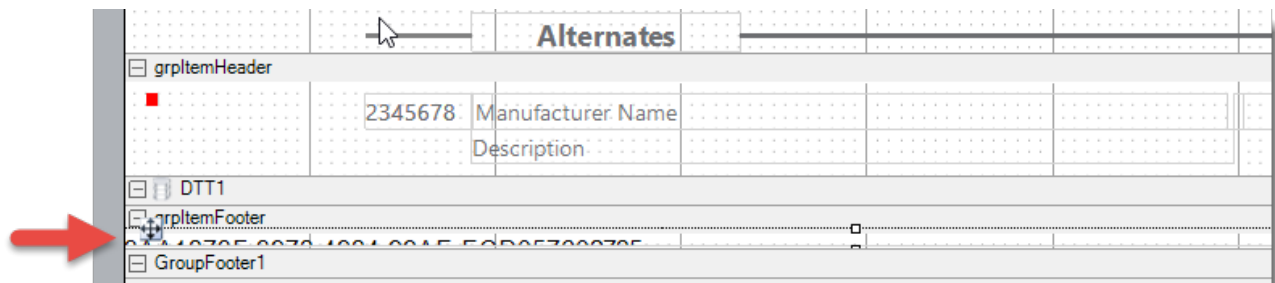

Figure 9. Select the embedded subreport
9. Repeat the first six steps for the 'Proposal Level2 Items' subreport. Before previewing and publishing this subreport we need to embed our custom 'Proposal Level3 Items' report. This subreport gets embedded in the 'grpItemFooter' report section. It is the only control in that section. Select the subreport (See Figure 9) and then right-click on it. Choose 'Bind to D-Tools Report'. In the dialog box find your custom 'Proposal Level3 Items' report and select it.